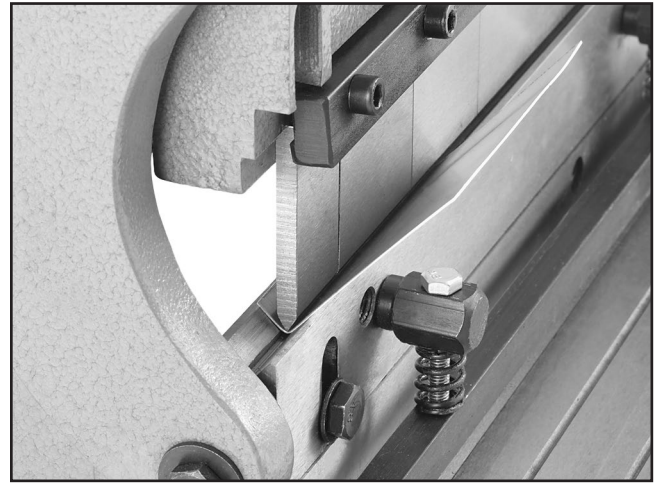

Figure 36. 90° bend completed.
3. While holding the workpiece steady, use the hand crank to raise the finger receiver to perform the desired bend (see **Figure 36** for an example), then lower the receiver and remove the workpiece.